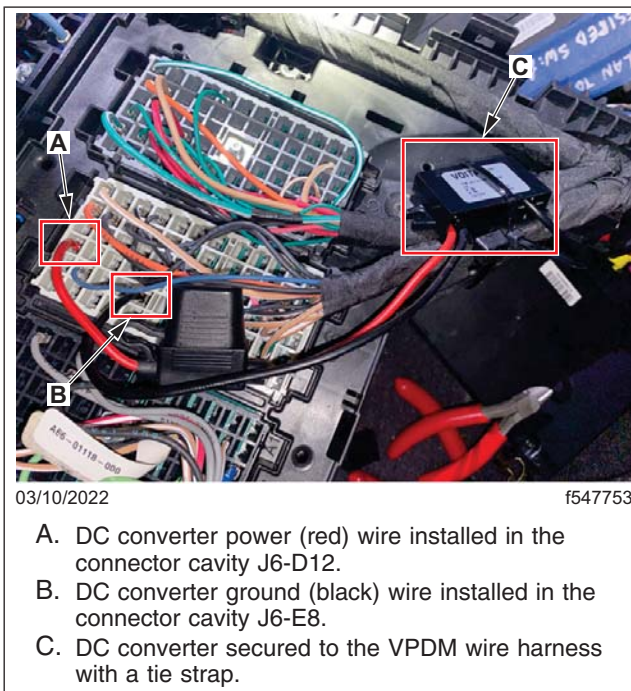

Fig. 18, DC Converter Connected and Secured
14. Route the DC converter wires along the VPDM harness, then secure them with a tie strap. See Fig. 18.